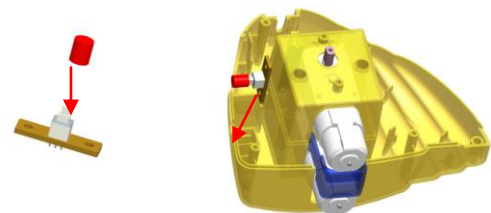

Fig. 3
2. Cover the switch (10) with the switch cap (12) and install it to the body part (3). (Fig. 3)